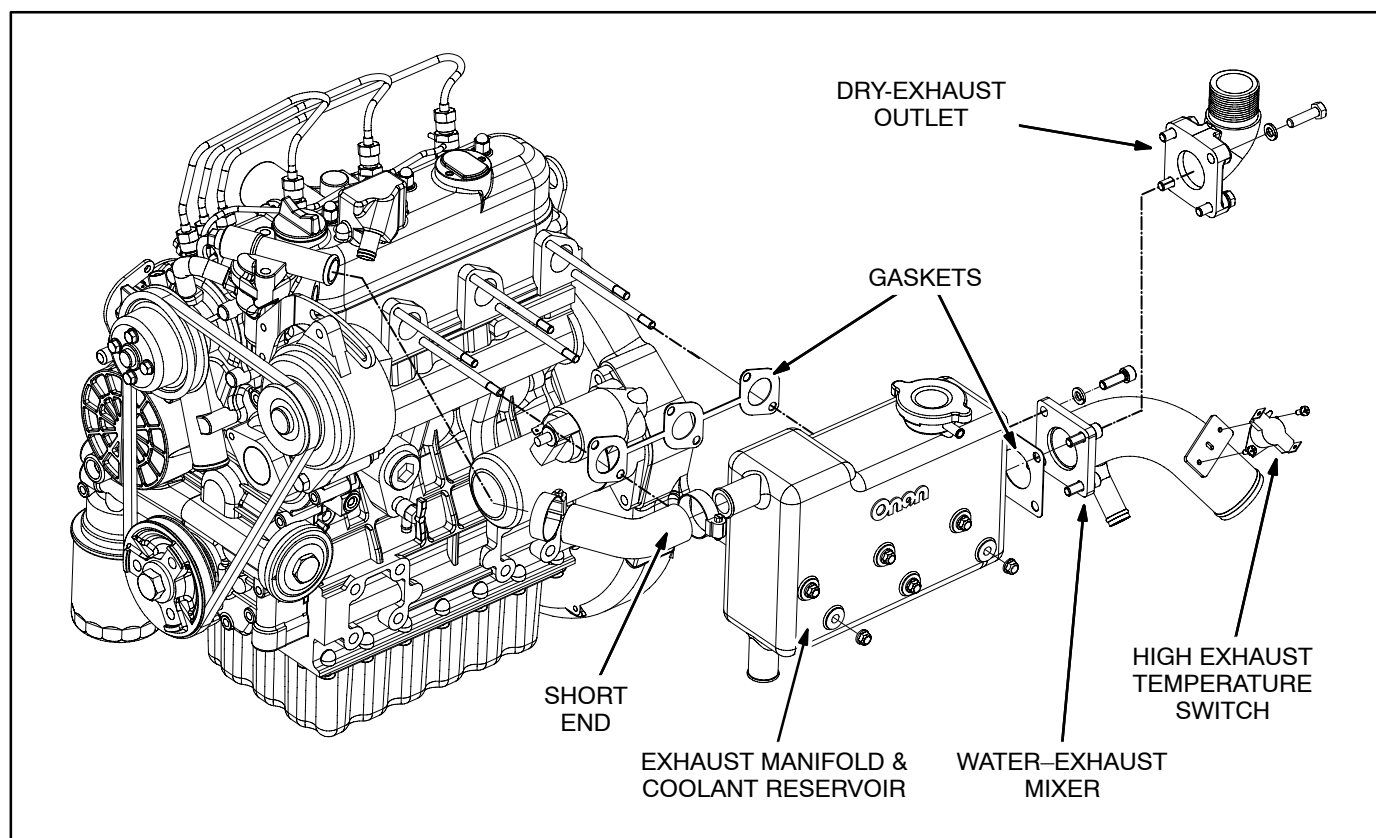

FIGURE 6-1. TYPICAL EXHAUST MANIFOLD / COOLANT RESERVOIR—MDK BK, MDK BL, MDK BM, MDK BN
MDK BK, MDK BL, MDK BM, MDK BN: (Figure 6-1) Use new manifold and mixer gaskets when re-assembling. Torque the manifold nuts (2 per port) to 9.5-12.2 lb-ft (12.9-16.6 N-m) and the mixer flange bolts (4) to 15-19 lb-ft (20-25.7 N-m).